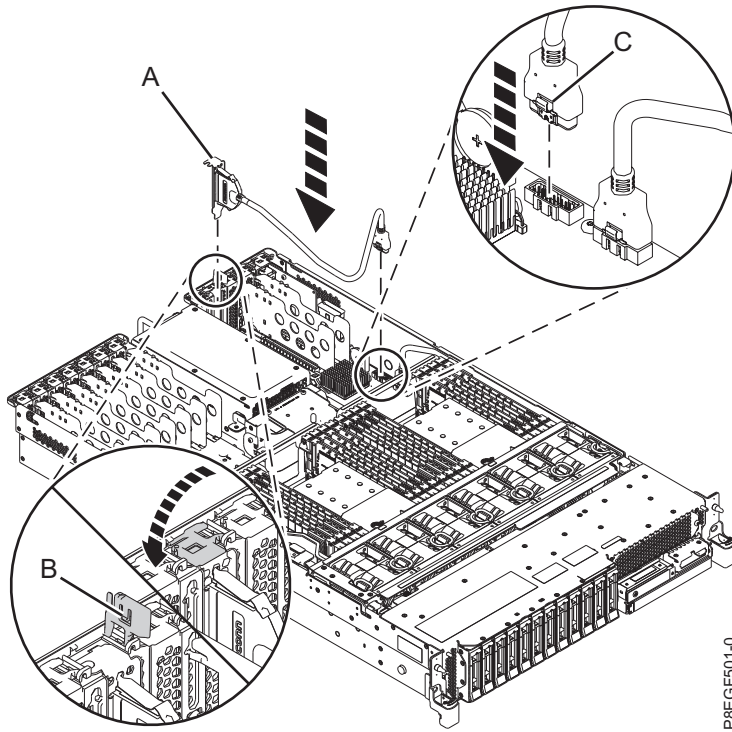

Figure 2. Replacing the rear USB cable
2. Insert the rear USB cable housing (A) into the PCI adapter slot P1-C4 at the rear of the system as shown in Figure 2 on page 5.
3. Press the adapter latch (B) down and route the cable along the right side of the chassis.
4. Plug the other end of the rear USB cable (C) into the connector on the system backplane.